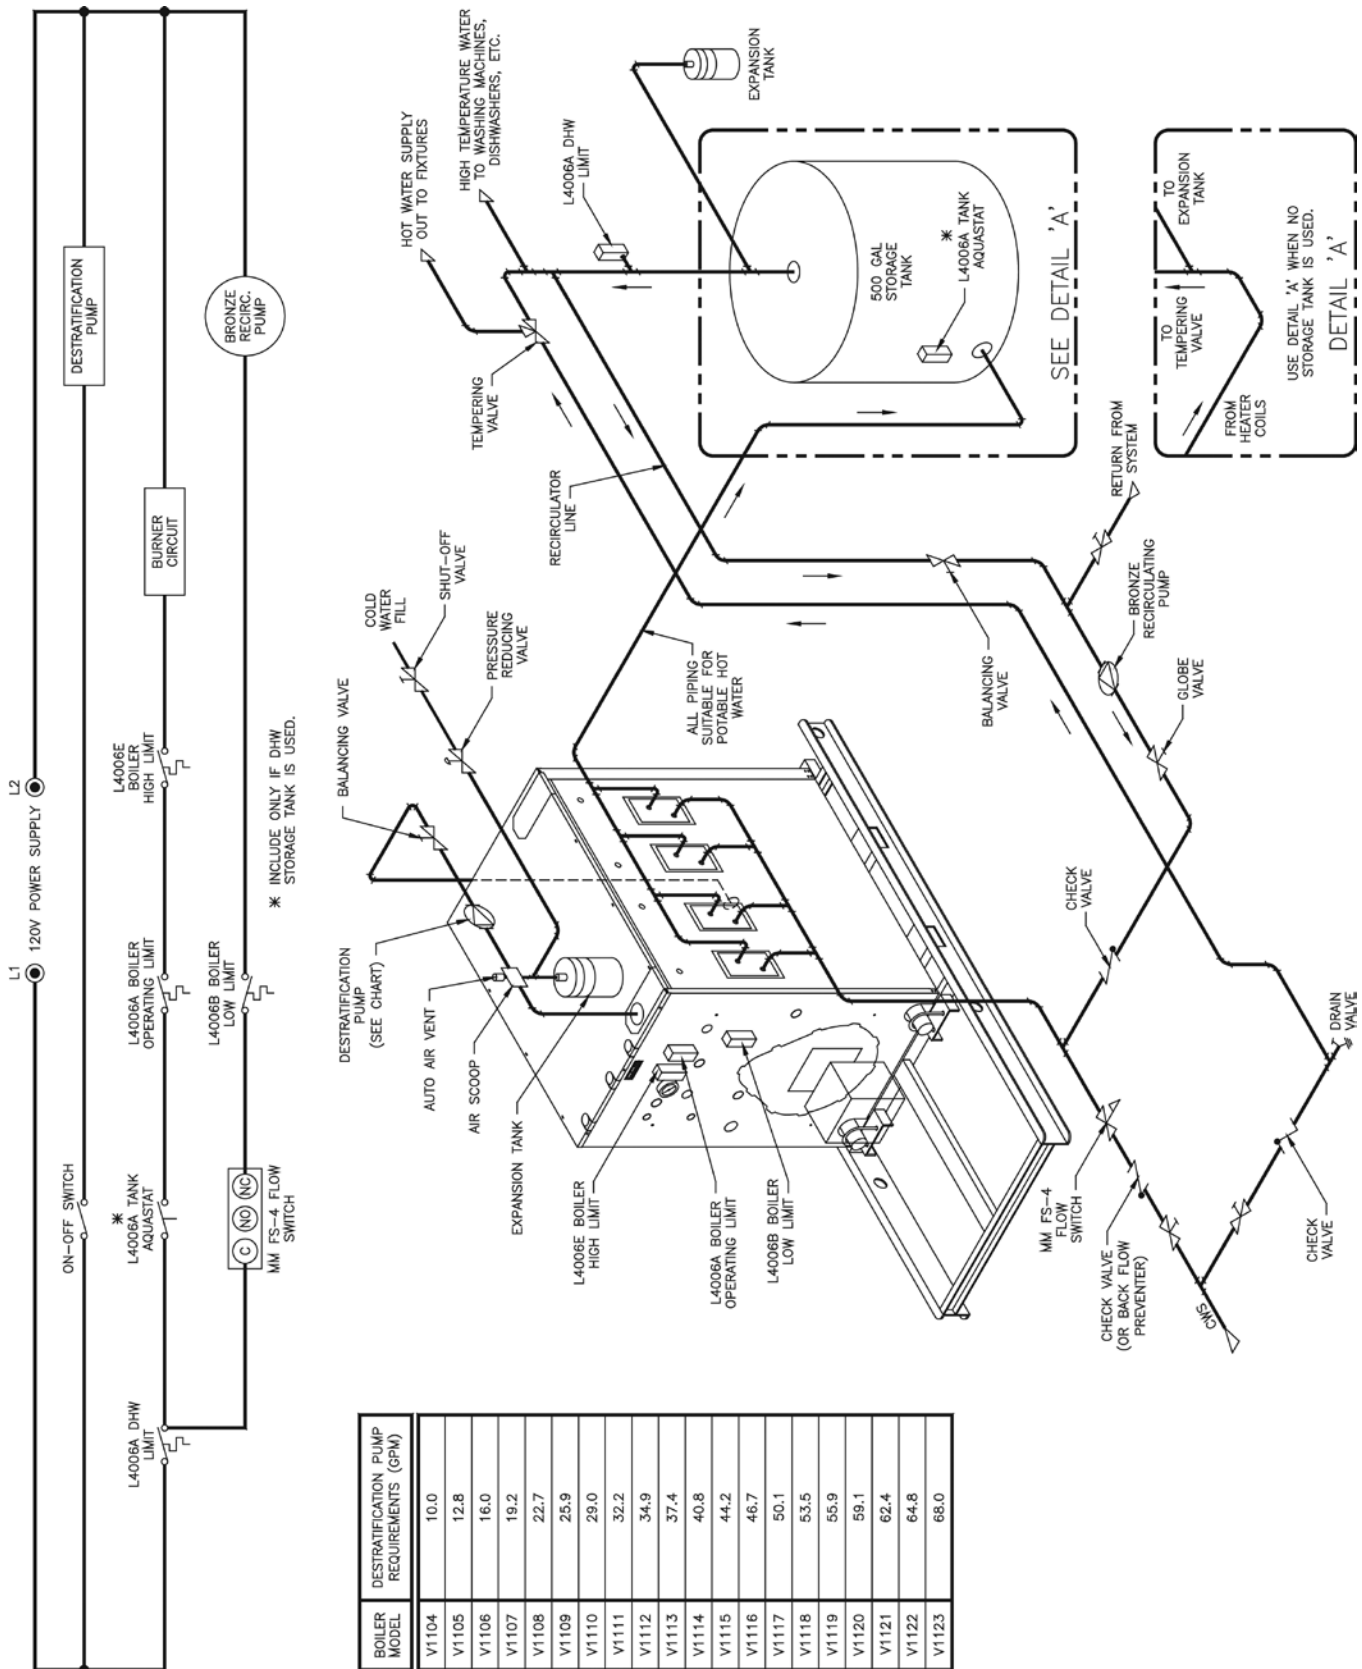

Figure 42a: DHW Generation with Tankless Coils, Storage Tank and Destratification Pump
2. **Hot Water Boiler/Tankless Coils/Storage Tank** – This application involves the use of several tankless coils piped in parallel, emptying into a large storage tank, and is typically used in larger DHW production applications, such as hotel showers and laundries. See Figure 42a for recommended piping and wiring details for this type of application. The tempering valve and recirculation loop are advantageous in these applications, because they provide both high temperature and tempered domestic water to the system, eliminating the need to purge and waste water until it reaches the desired temperature. In the case where the boiler is used for domestic production only, and there is no space heating involved, a destratification pump is utilized to provide flow within the boiler. This flow acts as a means of preventing the hot water from stratifying at the top of the boiler. Destratification pump flow rates are given in the table in Figure 42a.